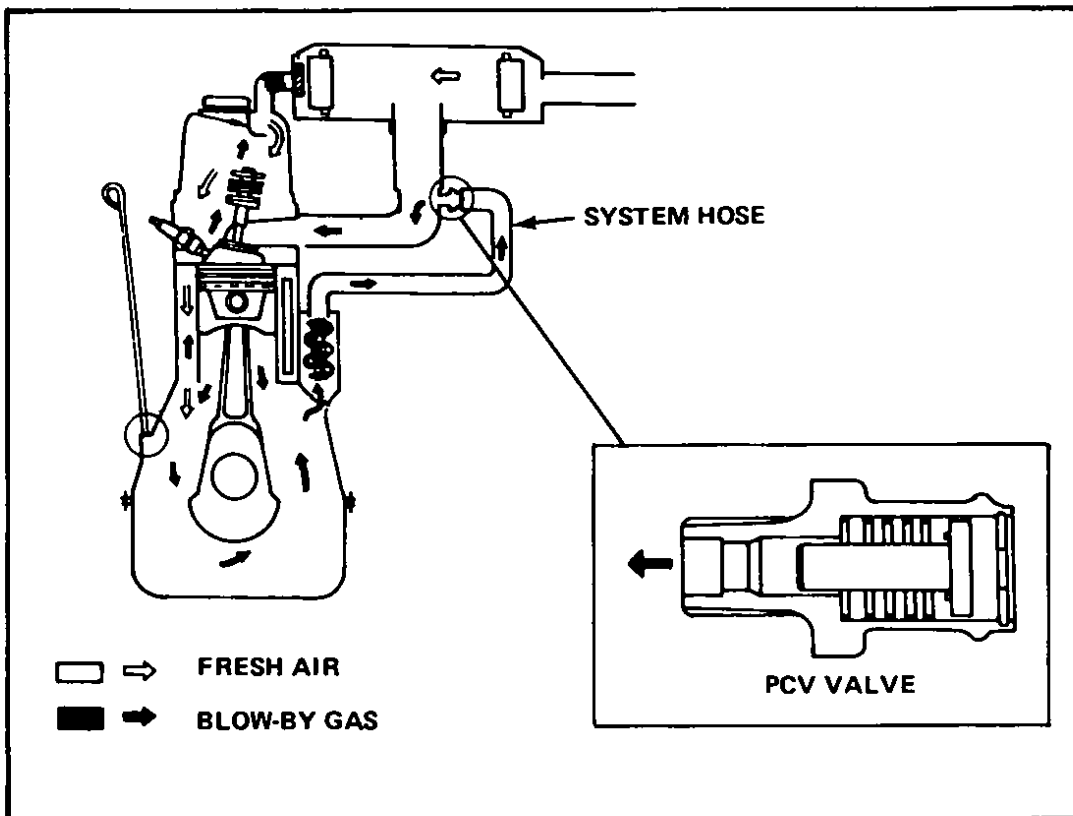

Fig. 55 PCV system
1. Locate the PCV valve and remove it, Fig. 55.
NOTE: At this time you should also check and clean the system hose, Fig. 55.